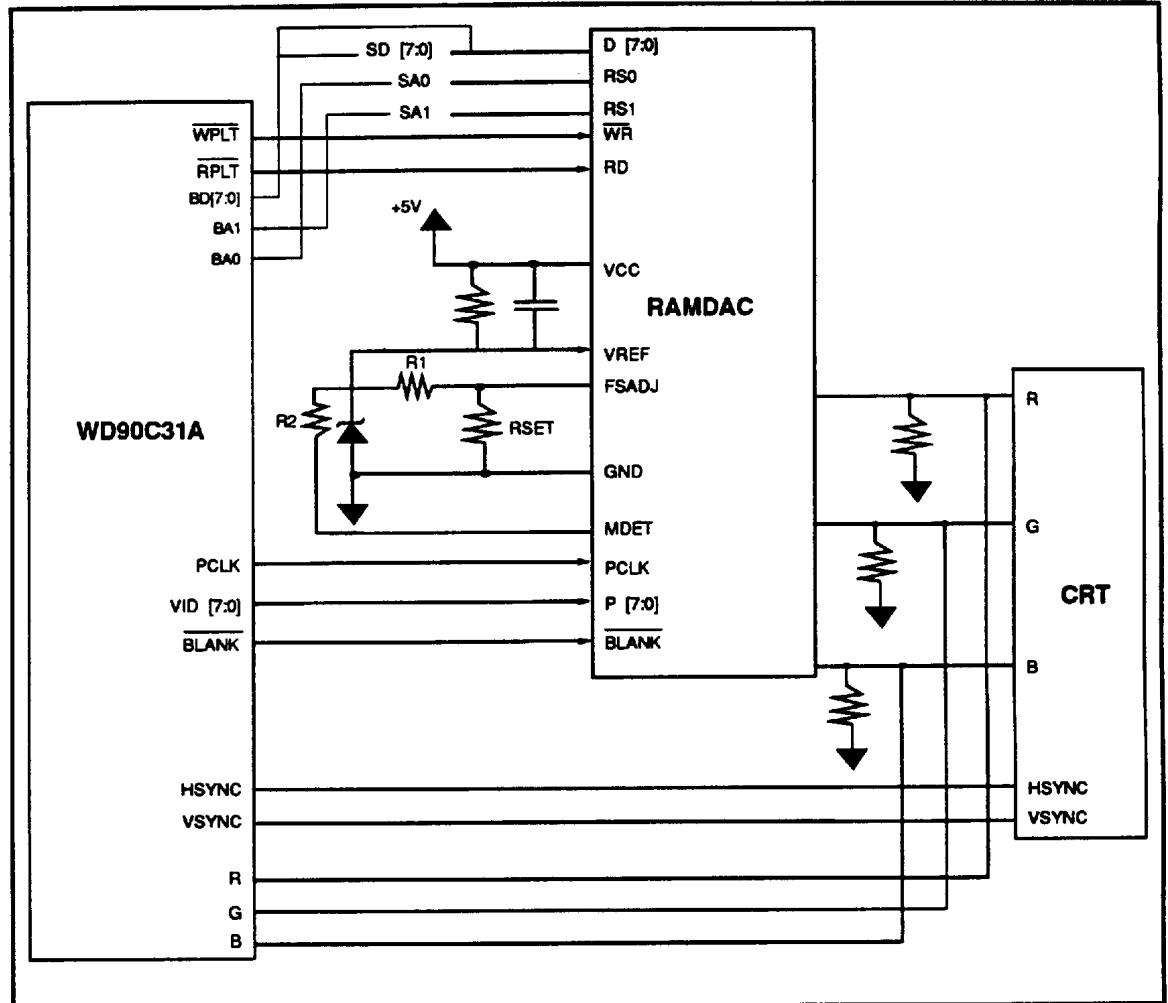

FIGURE 3-10 EXTERNAL RAMDAC INTERFACE
- Figure 3-10. External RAMDAC Interface
Figure 3-10 shows the interface between an external RAMDAC and the WD90C33 Controller.